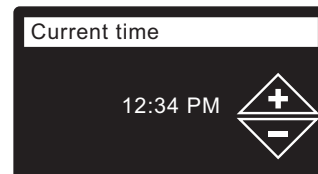

FIG. 20
- CURRENT TIME** Press the DOWN (▼) or UP (▲) buttons to set the current time (See Figure 20). Hold the button down to rapidly advance. Be sure that AM or PM is correct. If the system units were set to metric in Step 17, the clock will be in 24-hour format.
- Press the SELECT (O) button.